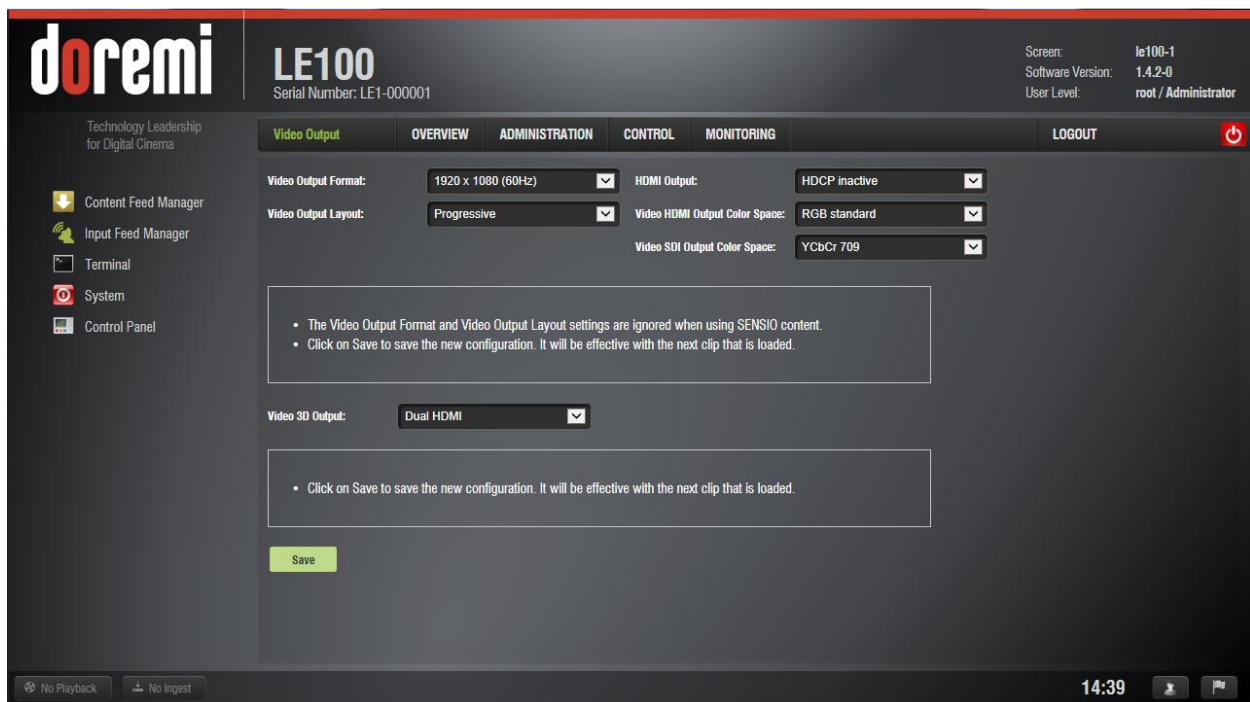

Figure 15: Video Output Configuration
- Select the Control Panel and click on the Video Configuration link (see Figure 15).